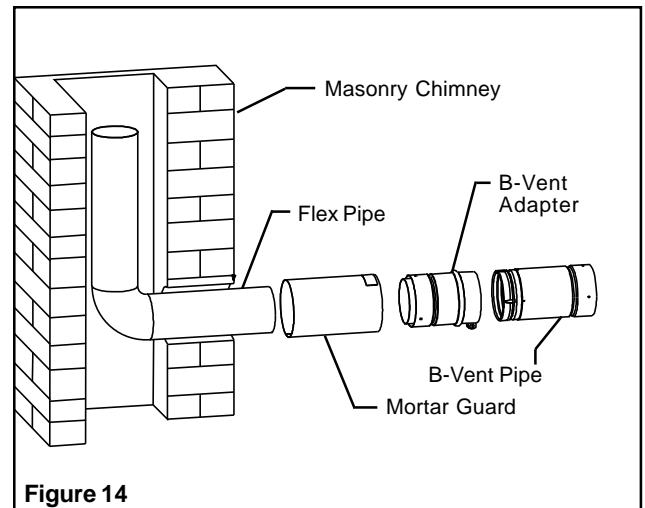

Figure 14
2. The Flexible Liner should be installed such that it extends at least 2" beyond the Mortar Guard, allowing sufficient length for attaching the universal B Vent Adapter to the flex (see Figures 14 and 15).